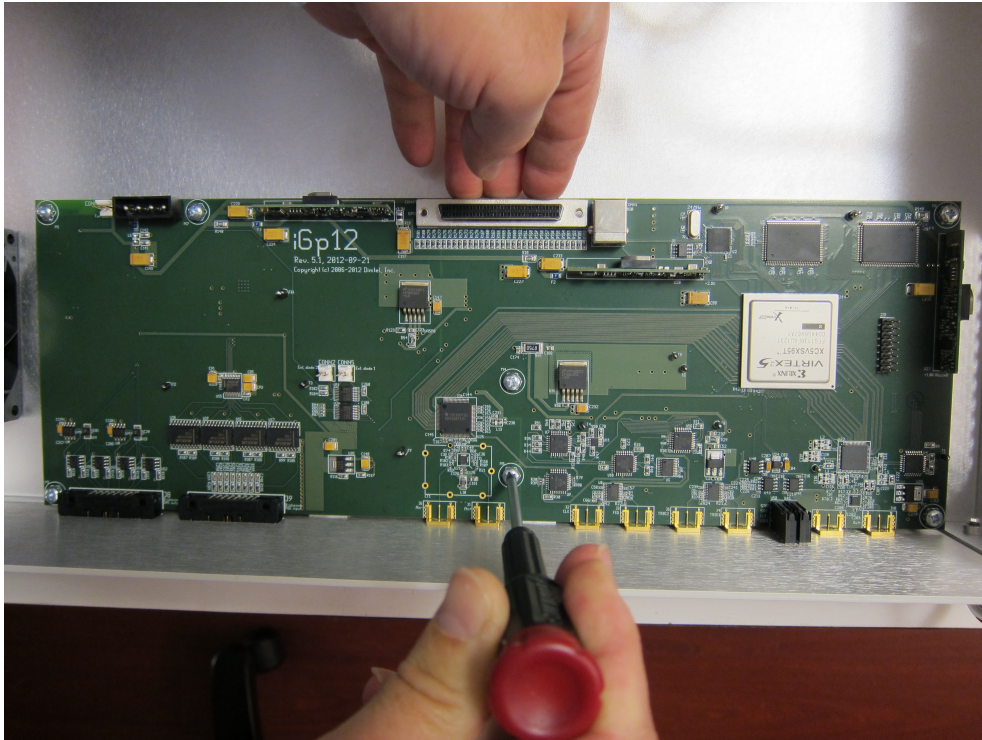

Figure 27: Bolting down the PCB while maintaining alignment and mild forward pressure.
4. Install 7 6-32 screws (90402A144) and tighten them while pushing the PCB towards the front panel to ensure no gap between the board edge and the connectors. Aligned PCB is shown in Figure 27.